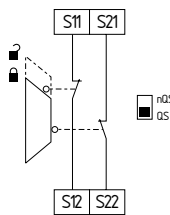

Fig. 12
**Dual-channel guard door monitoring circuit with interlocking device to ISO 14119 (see Fig. 12)**